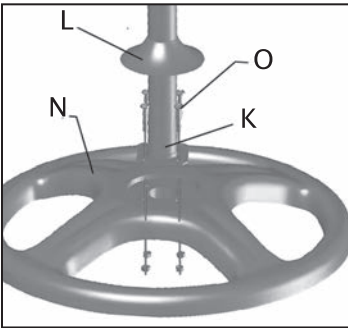
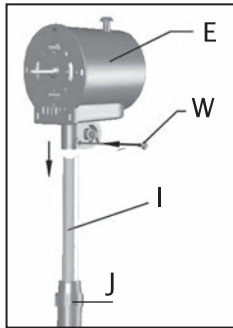
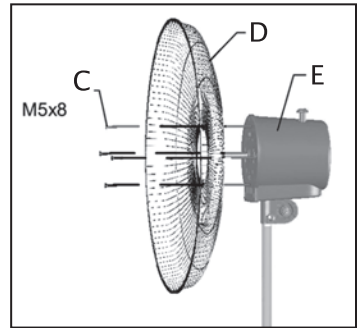
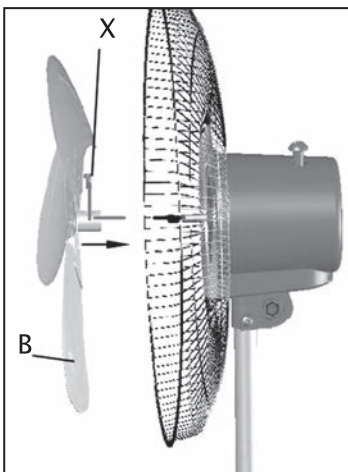

FIG. 1
FIG. 2
FIG. 3
FIG. 4
(1), Insert the base screw cover (L) into the base pipe (K), then mount the height-adjustment screw (J) on the base pipe (K)
Mount securely the base pipe (K) on the base (N) using the four screws and the four nuts (O). **FIGURE 1**
(2), loosen the height-adjustment screw (J) on the base pipe (K), extract the extendable pipe (I) up to the desired height and tighten again the height-adjustment screw (J).
At the top of the extendable pipe (I), place the motor body (E) securing with motor lock screw and nut (W). **FIGURE 2**
(3), Put the back guard (D) on the motor body and fix it with four screws (C) **FIGURE 3**
(4), Fix the blades (B) on the motor shaft with the provided screw (X). **FIGURE 4**
When positioning the motor body on the pedestal, always check that the part marked with (A) is always positioned correctly as shown in figure 1 and not facing the cage, (wrong position) as shown in figure 2.
N.B. if the part (A) is in the wrong position to bring it back to the correct position, make sure that the oscillation pin (B) is pushed and pushed down as in figure 3 and not upwards as in figure 4 and keeping it still the pedestal rotate the motor body until the part (A) is correctly positioned as shown in figure 1